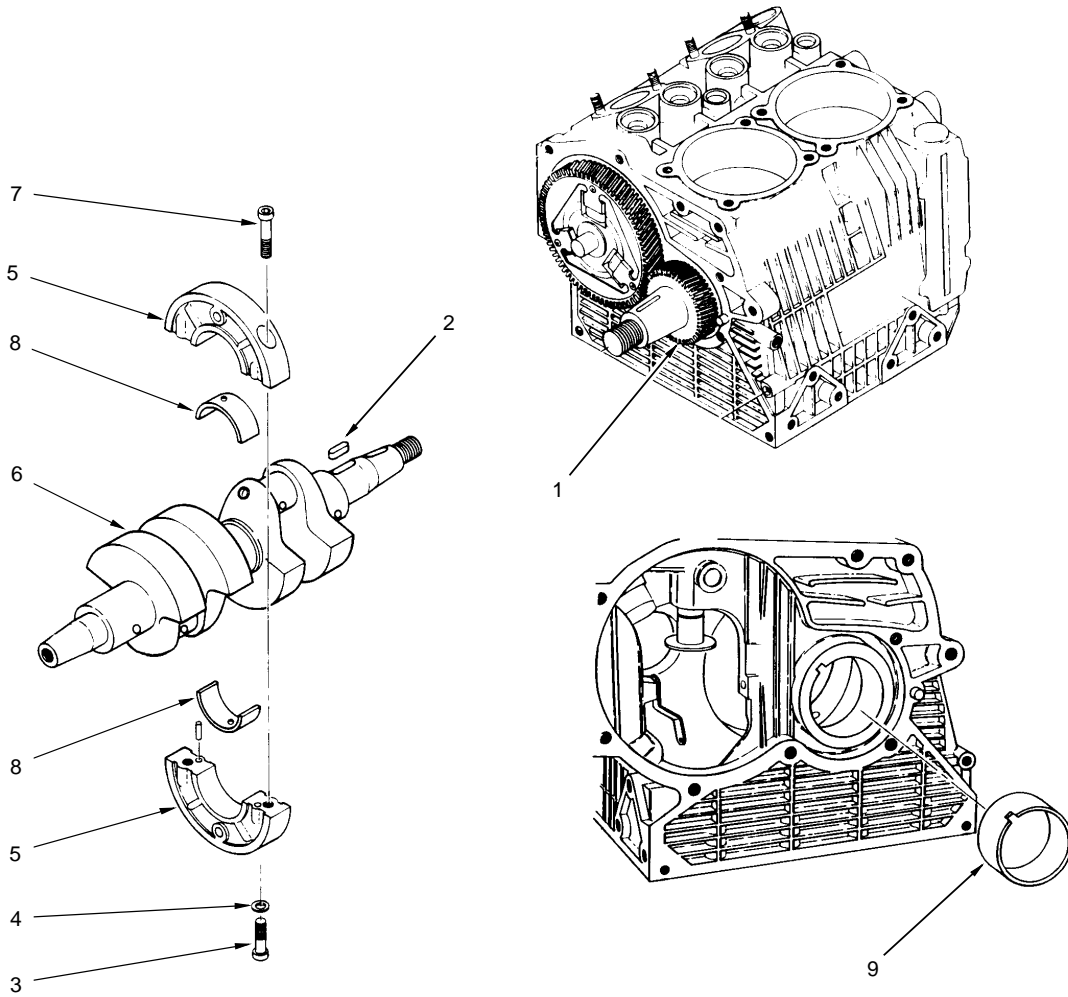

Figure 23. Crankshaft Gear, Crankshaft and Bearings Removal
**REMOVE CRANKSHAFT GEAR, CRANKSHAFT AND BEARINGS.** (Refer to figure 23.)